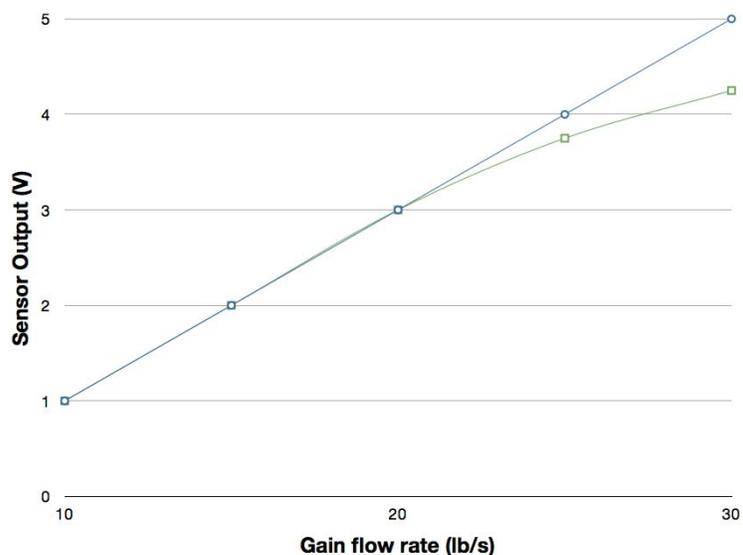

Figure 2: Simulated sensor linear (circles) vs. non-linear (squares) response to grain at various harvest (flow) rates.
With impact-plate sensors, the relationship between sensor output and grain mass flow rate is usually non-linear. This means that the sensor output isn't quite proportional to grain flow rate (Fig. 2). For example if this relationship were linear, then an output of 1 volt (V) might be produced by 10 lb of grain per second, 3V by 20 lb/s, 5V by 30 lb/s, etc. However, due to friction and not all of the grain hitting the impact plate at high flow-rates, the relationship is non-linear. So, in our previous example, 1V might be produced by 10 lb/s, 3V by 20 lb/s, and 4.25V by 30 lb/s. What this means for the operator is that if the sensor is calibrated at just one flow rate, it will be less accurate at flow rates that are significantly different.